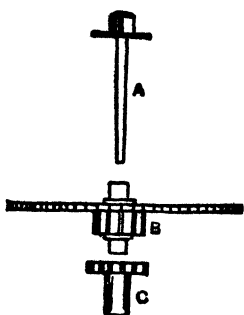

Fig. 41.—Centre Arbor A, Centre Pinion B, and Cannon Pinion C of Swiss Watch
**Centre Arbor.**—Having taken off the hands and dial, and removed the balance, the centre arbor A (Fig. 41) must be removed. This is arranged quite differently from the full-plate watches previously de-
scribed. The centre pinion B of a Geneva watch is hollow; that is, it has a hole drilled right through it. The centre arbor carrying the set-hand square passes through this hole friction-tight, so that it can be turned to set the hands. The cannon pinion C is pushed tight on the arbor and does not move. Fig. 41 shows the arrangement. To remove the arbor, hold the movement in the hand, and give a smart tap with a watch hammer